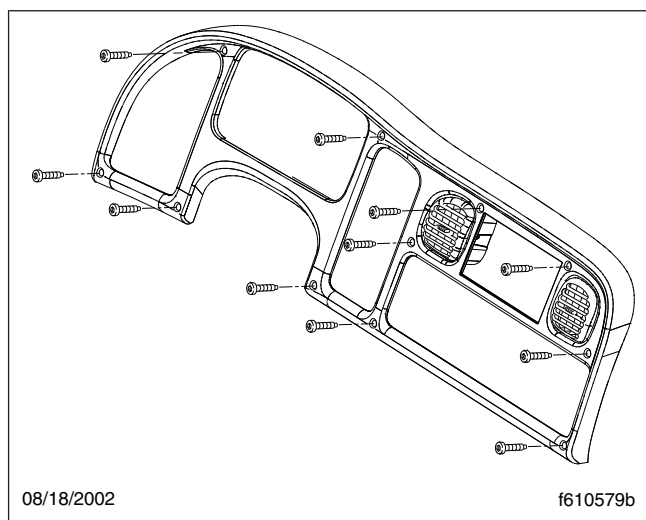

Fig. 3, Dash Trim Piece
7. Remove the dash trim piece by removing the eleven screws that secure it. All fasteners for this procedure are 10–16 Torx® capscrews. See Fig. 3.